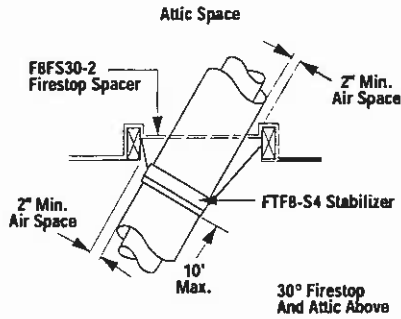
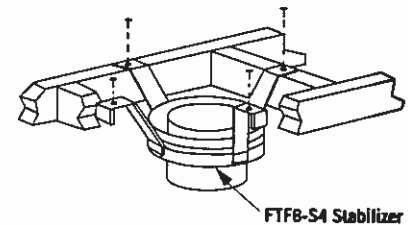

Figure 21
Figure 26
It may be necessary to assemble the chimney at 30° when passing through the floor or ceiling area. Use the F8FS30-2 firestop spacer as shown in Figures 21 and 22. Support the chimney at floor or ceiling penetration with a FTF8 stabilizer if distance of chimney below ceiling is 10' or more. Maintain 2" minimum air space to combustibles from chimney sections.
Install the Model FTF8-S4 stabilizer by fitting inner section down into respective section of proceeding flue pipe and locking outer stabilizer section into place over the outer chimney pipe. Position for proper clearance through framed opening and nail straps securely (under tension in "shear") into place on framing. Use 8d nails. Attach successive lengths of chimney pipe directly to stabilizer using same techniques as described in Step 4 (Figure 26).
Step 1. Use Offset Chart to determine amount of horizontal offset (A) and height (B) for various chimney section assemblies.
Step 3. Use Elevation Chart as job estimator only. Add necessary firestop spacers and stabilizers as required. Firestop spacers must be used as shown in Figures 21 and 22 and stabilizers as shown in Figure 26.